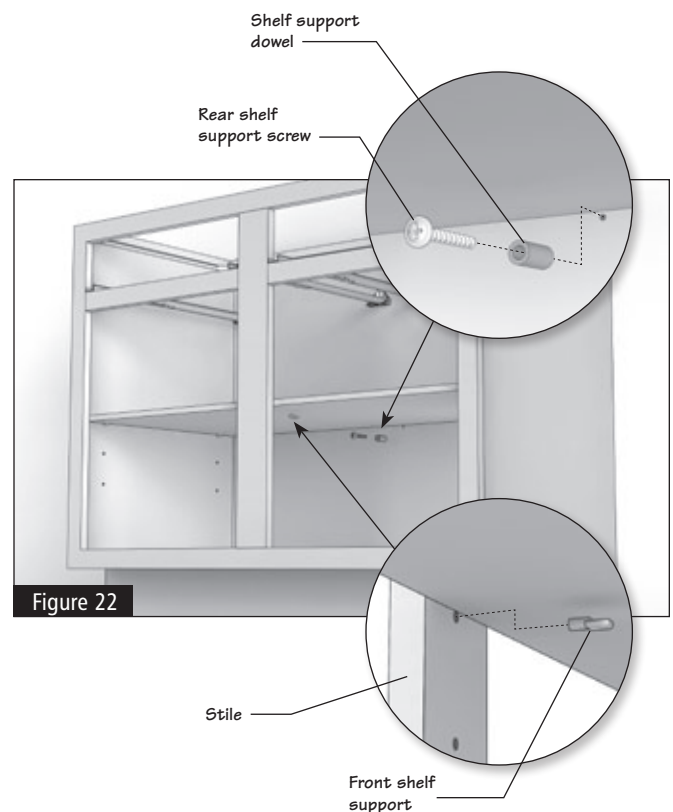

Figure 22
- 8.2** Install shelves by placing the shelf supports into the holes on both sides of the cabinet, push in completely and turn until the flat side rests upward and place the shelves into position. On wide cabinets, you will also need to insert a shelf rest on the back wall and front stile of the cabinet for added stability using the kit enclosed with the cabinet. (Figure 22)